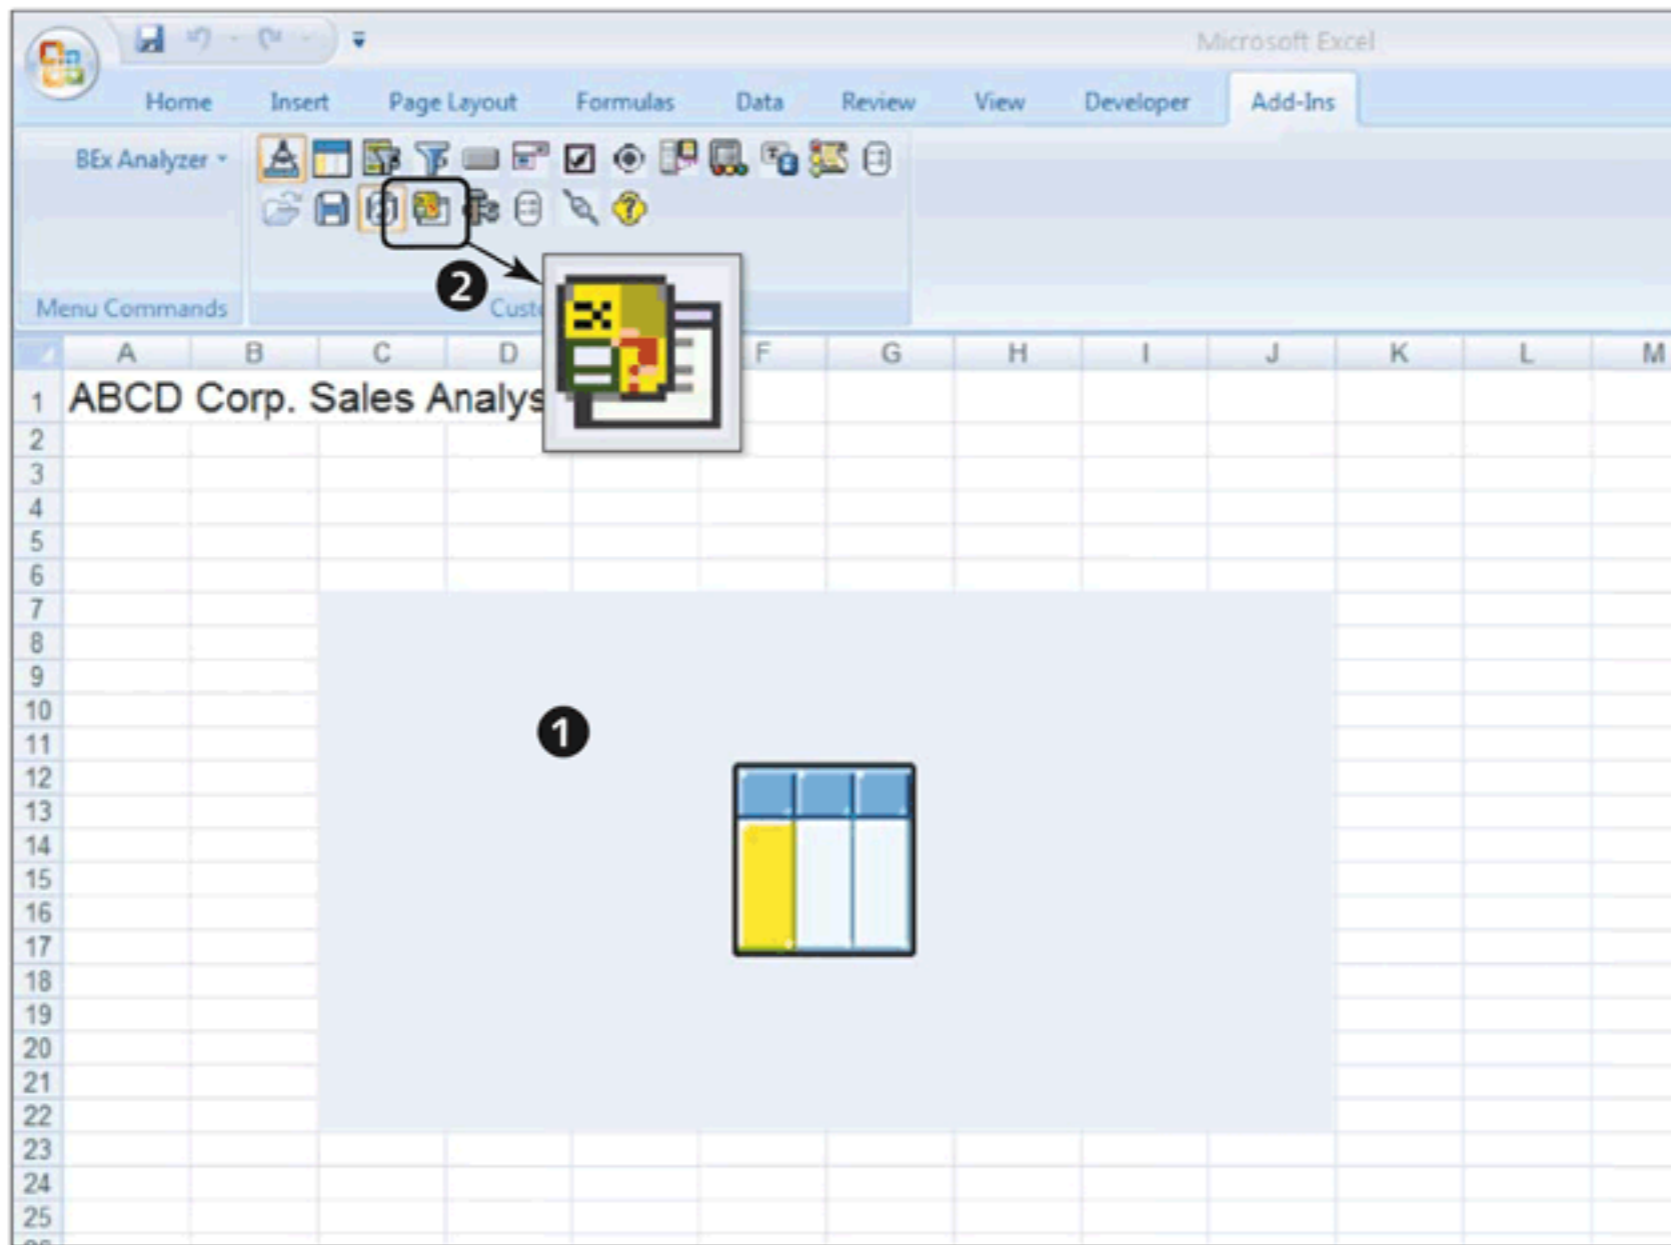

Figure 10.31 Maintain Variable Values
If the query assigned to the data provider in the analysis grid (❶ of Figure 10.31) contains some user entry variables, you must maintain these variables. To do this, click on the VARIABLES button (❷) on the ANALYSIS toolbar. This shows you the screen where the values for those variables can be maintained.